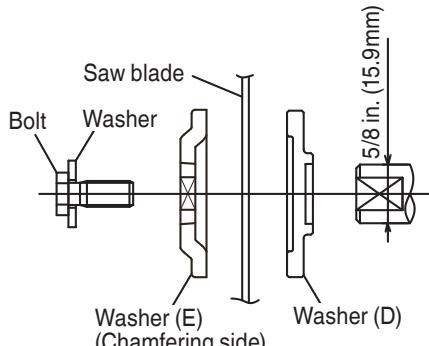

Fig. 34-d
- (7) Press in the spindle lock and tighten the bolt by turning it to the left by standard accessories' wrench (10mm box wrench) as indicated in Fig. 34-c.